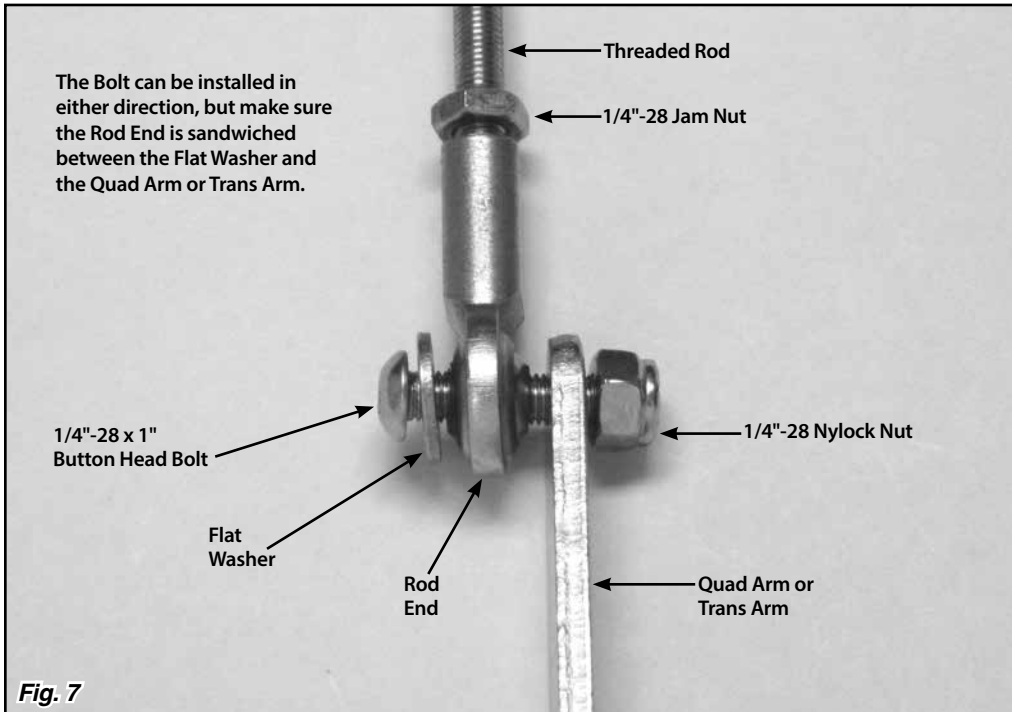
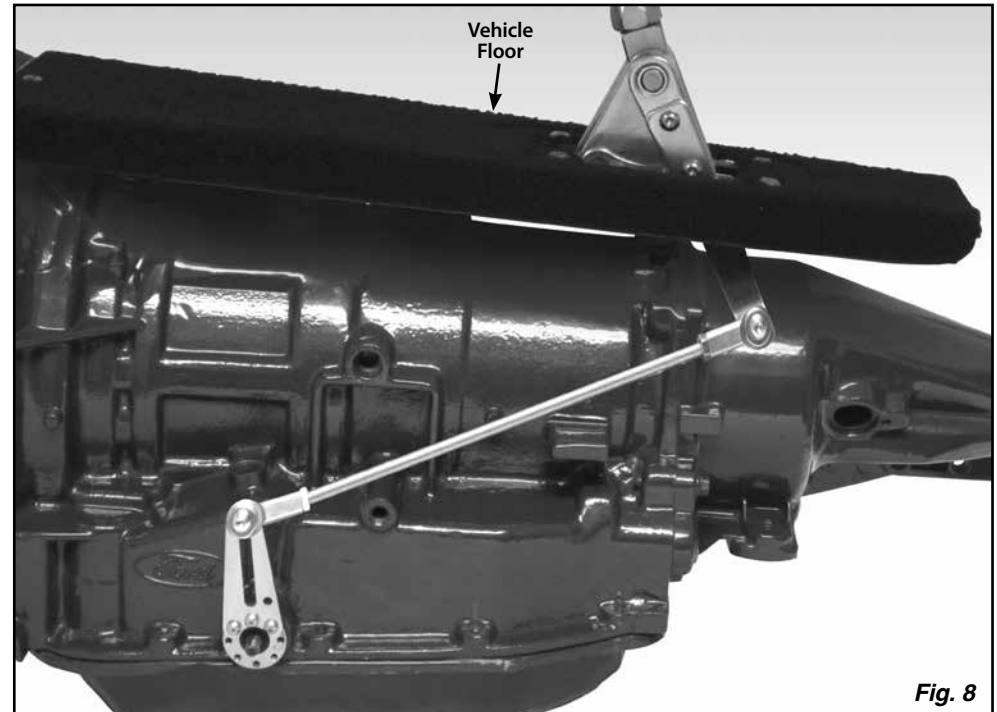

Fig. 7
Fig. 8
Step 11: Verify that both 1/4"-28 jam nuts are on the threaded rod, and install a rod end onto each end of the threaded rod. Position the rod ends on the inside or outside of the quad arm and trans arm so that the threaded rod is as straight as possible. Attach the threaded rod assembly to the inside or outside of the quad arm and trans arm using the 1/4"-28 x 1" button head bolts, flat washers, and nylock nuts as shown in **Fig. 7**. The button head bolts can be installed from either direction, but make sure each rod end is sandwiched between the flat washer and the trans arm or quad arm. **Fig. 8**